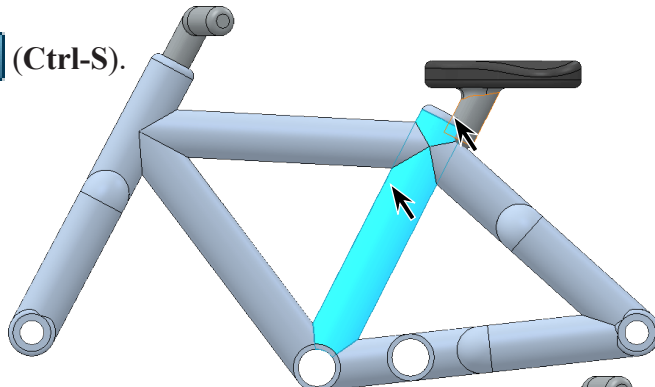

Fig. 40
Step 4. Click **cylindrical face of Seat Tube in Frame** and a **cylindrical face of Saddle stem**, **Fig. 40**.